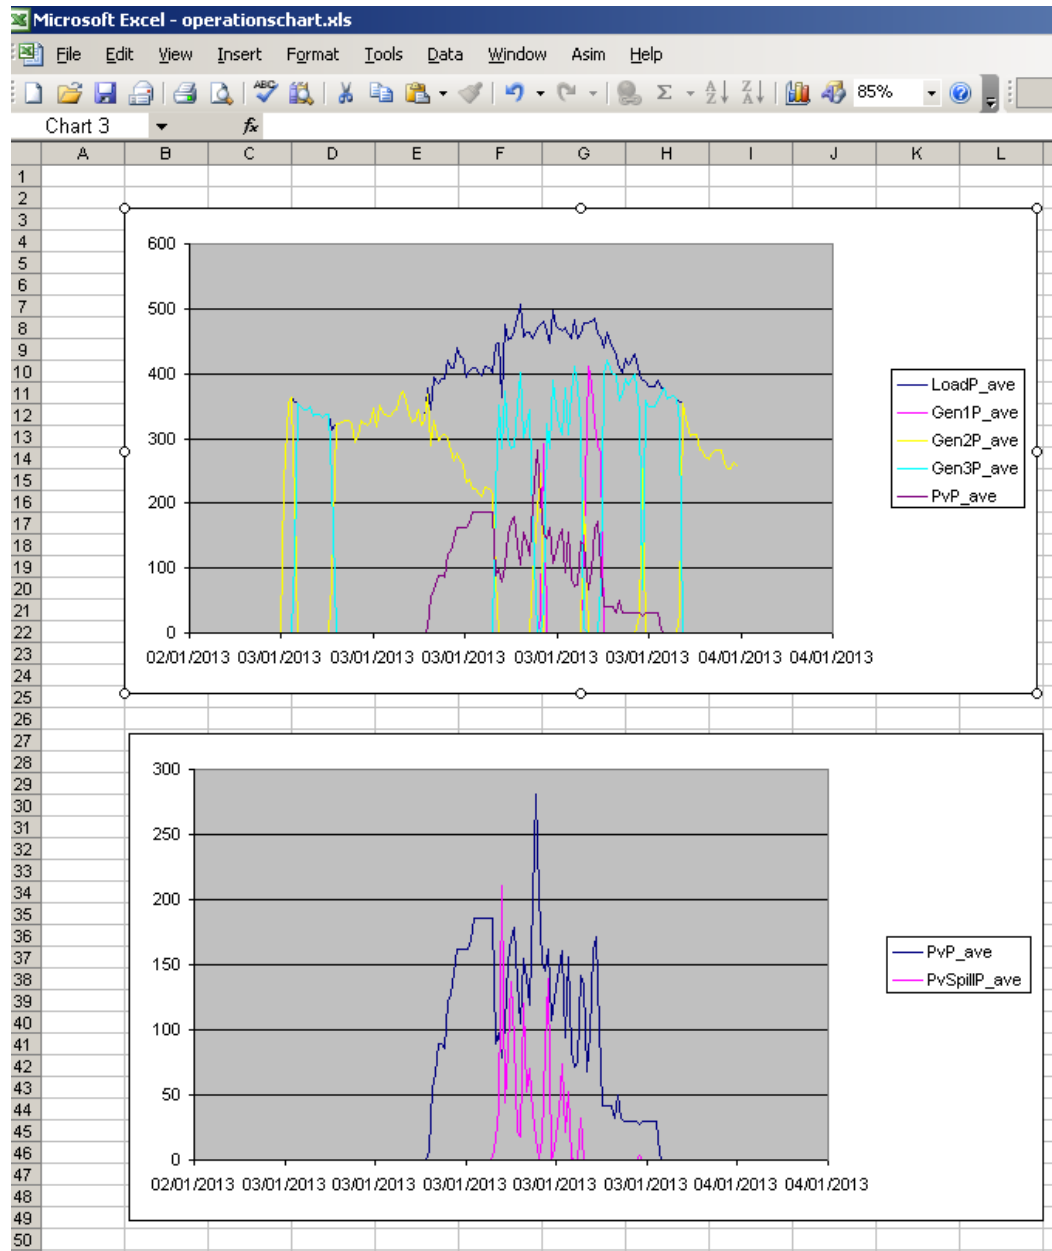

Figure 29: Report from operationschart.xls
12. Create 2 charts as in Figure 29: